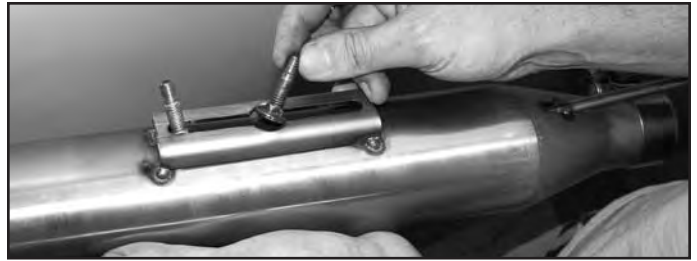

Figure 4
1. Slide bolts removed from hanger bracket into track on Peacemakers front exhaust. **Figure 4.**